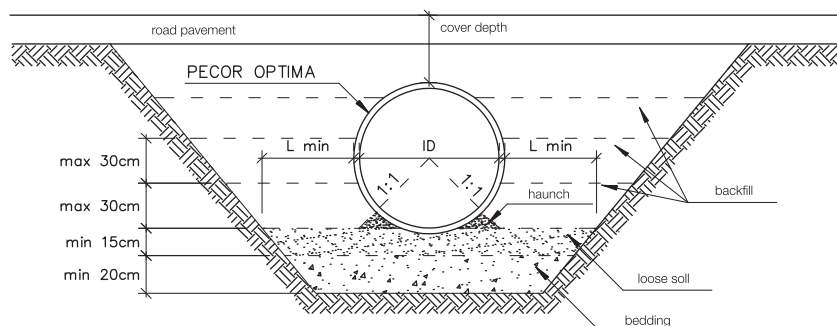

Figure 13 – Backfill and foundation for PECOR OPTIMA® pipes
- backfill should be evenly laid in not compacted layers at maximum 30cm thick, on each side of the pipe (figure 13)